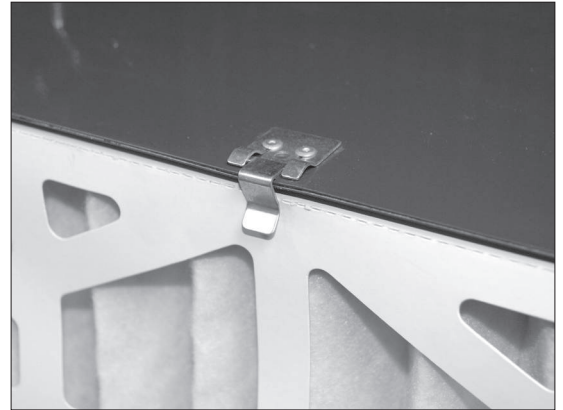

Fig 9.1
- There are two filters that need to be periodically cleaned or replaced. The outer filter can easily be removed by disengaging the two clips (**Fig 9.1**).